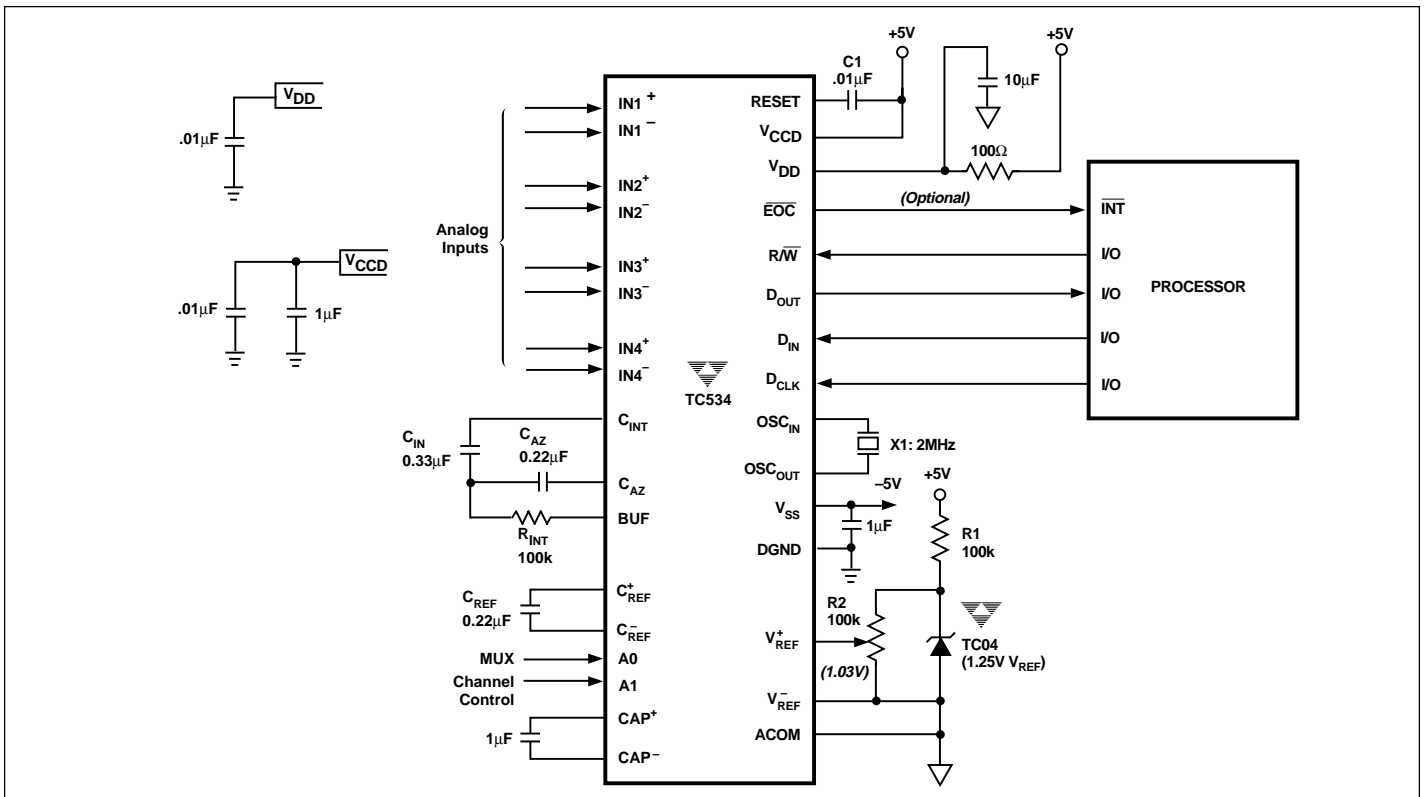

Figure 6. TC530/534 Typical Application
Figure 6 shows a typical TC534 interrupt-driven application. Timing and component values are calculated from equations and recommendations made in the Dual Slope Integrating Converter and Programming the TC530/534 sections of this document. The EOC connection to the processor INT input is for interrupt-driven applications only. (In polled systems, the EOC output is available on D_{OUT}).
(2) Improper sequencing of the power supply inputs (V_{DD} vs. V_{CCD}) can potentially cause an improper power-up sequence to occur in the internal state machines. It is recommended that the digital supply, V_{CCD} , be powered up first. One method of insuring the correct power-up sequence is to delay the analog supply using a series resistor and a capacitor. See Figure 6, TC530/534 Typical Application.
(3) Decoupling capacitors, preferably a higher value electrolytic or tantalum in parallel with a small ceramic or tantalum, should be used liberally. This includes bypassing the supply connections of all active components and the voltage reference.
(4) Critical components should be chosen for stability and low noise. The use of a metal-film resistor for R_{INT} and Polypropylene or Polyphenylene Sulfide (PPS) capacitors for C_{INT} , C_{AZ} , and C_{REF} is highly recommended.
(5) The inputs and integrator section are very high impedance nodes. Leakage to or from these critical nodes can contribute measurement error. A guard-ring should be used to protect the integrator section from stray leakage.
(6) Circuit assemblies should be scrupulously clean to prevent the presence of contamination from assembly, handling, or the cleaning itself. Minutely conductive trace contaminants, easily ignored in most applications, can adversely affect the performance of high impedance circuits. The input and integrator sections should be made as compact and close to the TC53x as possible.